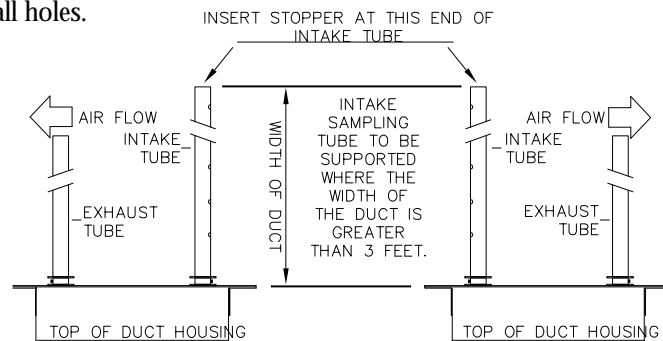

FIGURE 2 SAMPLING TUBE ORIENTATION
The Duct Detectors are designed for use in ducts where the air velocities are from 300 to 4000 feet per minute. Verify this by checking specifications of installation and if necessary, use an Alnor Model 6000P velocity meter (or equivalent) to check the air velocity. See Figure 2 for sampling tube orientation to air flow direction.
#### C. SAMPLING TUBE ASSEMBLY (See Figure 2)
The sampling tubes may be ordered to a desired length or ordered in one of 3 standard lengths and cut per requirements. The intake sampling tube consists of a piece of steel piping with a series of holes drilled the entire length of the tube and should extend the entire width of the duct. The holes must be facing into the air flow (see Figure 2). The exhaust tube consists of a piece of steel piping approximately 7-1/2" long.
**D. MOUNT SAMPLING TUBES** (See Figure 2)
1. Sampling tube connectors are equipped with set screws, which allow the tubes to be mounted only in directions shown in Figure 2. Establish proper orientation considering airflow direction.